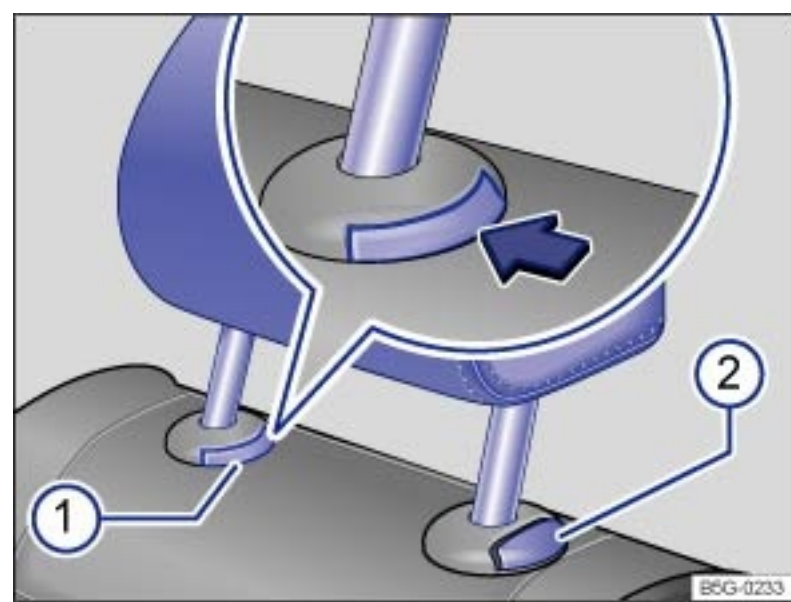
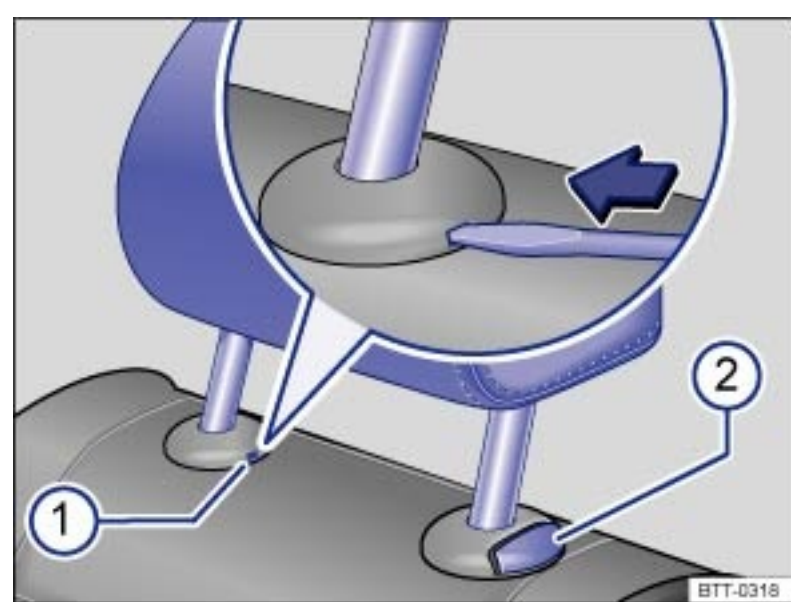

Fig. 45 Removing the rear head restraint (version A).
Fig. 46 Removing the rear head restraint (version B).
- ▶ Push button → Fig. 45 ① in the direction of the arrow and hold it in this position.
- ▶ At the same time press button ② while a second person pulls out the head restraint completely.
- ▶ If necessary, press the flat blade of the screwdriver from the vehicle tool kit into the slit of the trim cap → Fig. 46 ② in the direction of the arrow and hold it in this position.
- ▶ At the same time press button ② while a second person pulls out
- Push the head restraint down while pressing button → Fig. 45 ② or → Fig. 46 ② .